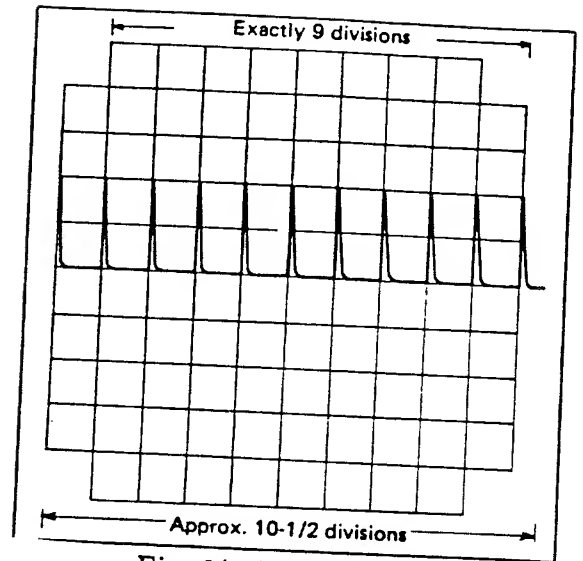

Fig. 16. Sweep Length
1. Adjust VR306 so that the 10 visible marker occupy exactly 9 divisions of horizontal deflection as shown in Fig. 16.
2. Adjust TC301 to duplicate the conditions shown in Fig. 16.